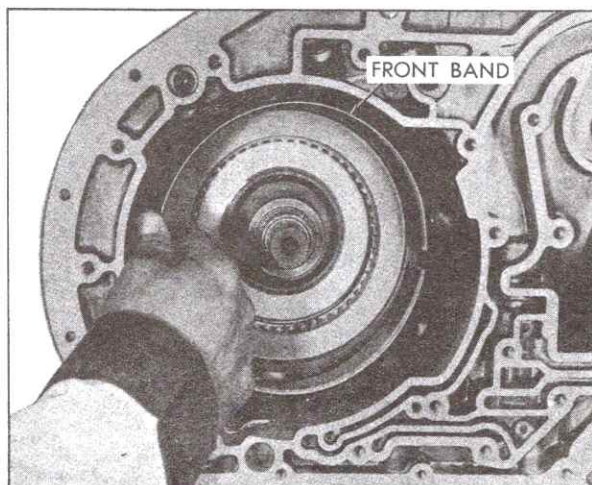

Fig. 7-185 Installing Front Band
b. Install front band with band anchor hole over band anchor pin, and apply lug facing servo hole, Fig. 7-185.